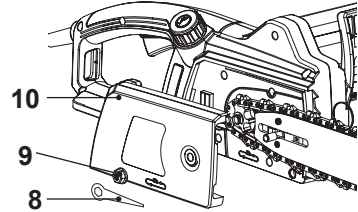

Fig. 1
- > Use only the guide bar (5) and saw chain (4) according to the technical data of the product.
- > Place the product on a suitable flat surface with the cover (10) facing upwards.
- > Loosen the retaining nut (9) anticlockwise with the wrench (8) and remove the nut as well as the cover (10) (Fig. 1).